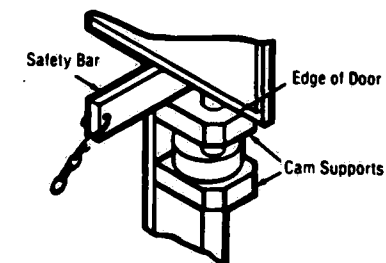

Figure 2-2. INSERTING CHAMBER DOOR SAFETY BAR.
d. Block chamber door open with safety bar (Figure 2-2).
- d. Block chamber door open with safety bar (Figure 2-2).